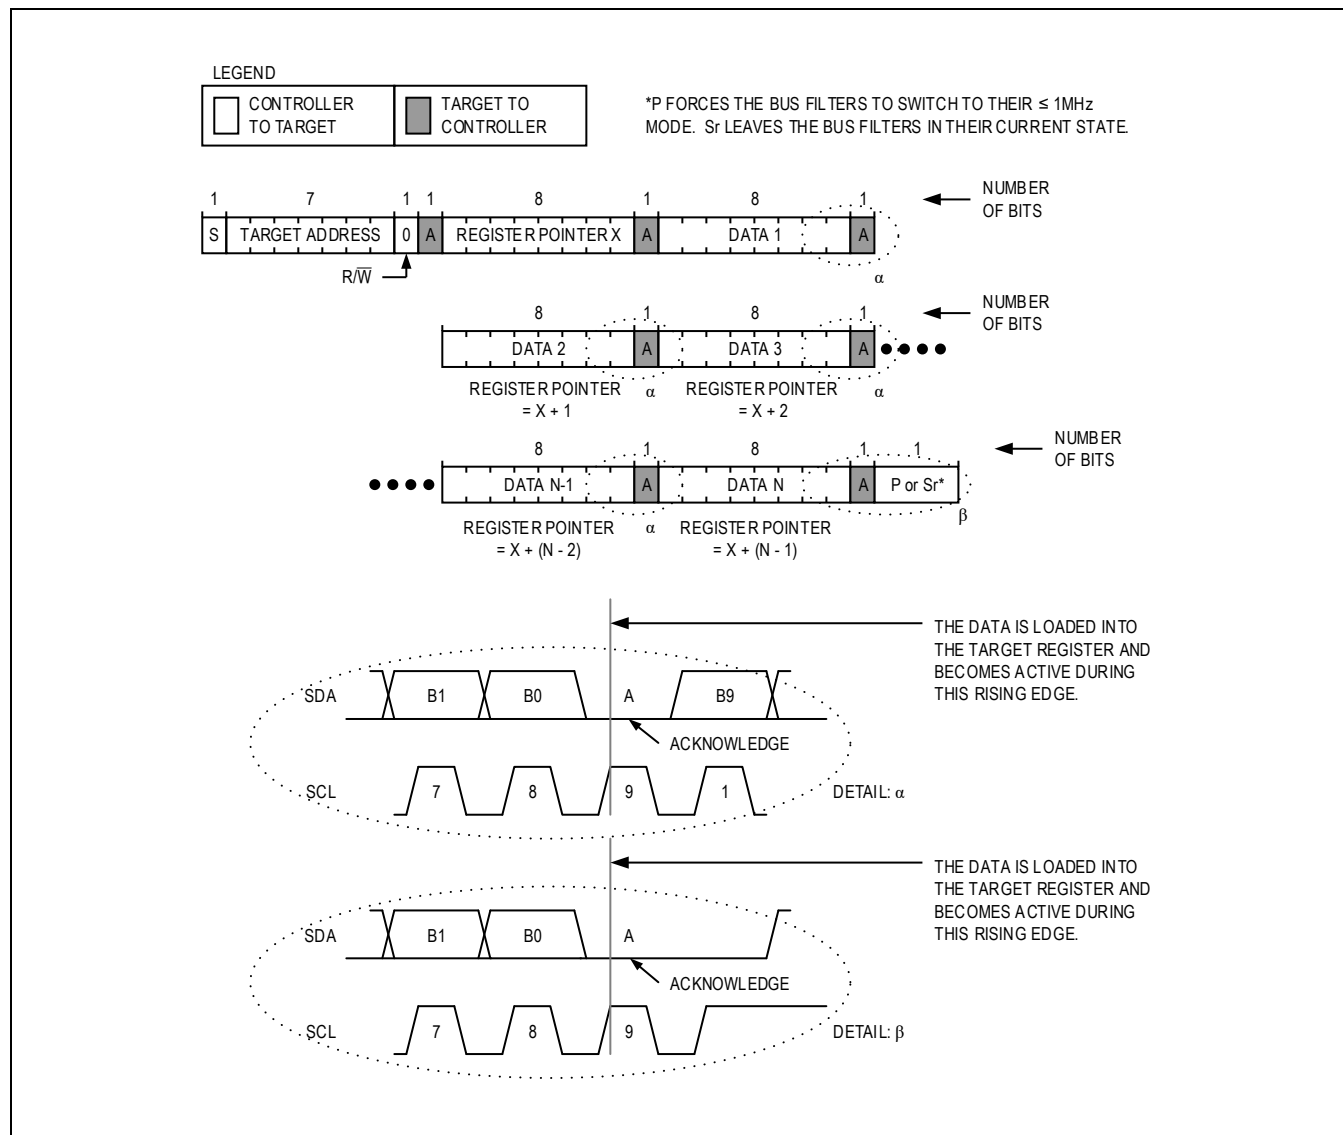

Figure 13. Writing to Sequential Registers
Figure 13 shows the protocol for writing to sequential registers. This protocol is similar to the “Write Byte” protocol, except the controller device continues to write after the target device receives the first byte of data. When the controller is done writing data, it issues a STOP condition (P) or REPEATED START condition (Sr).